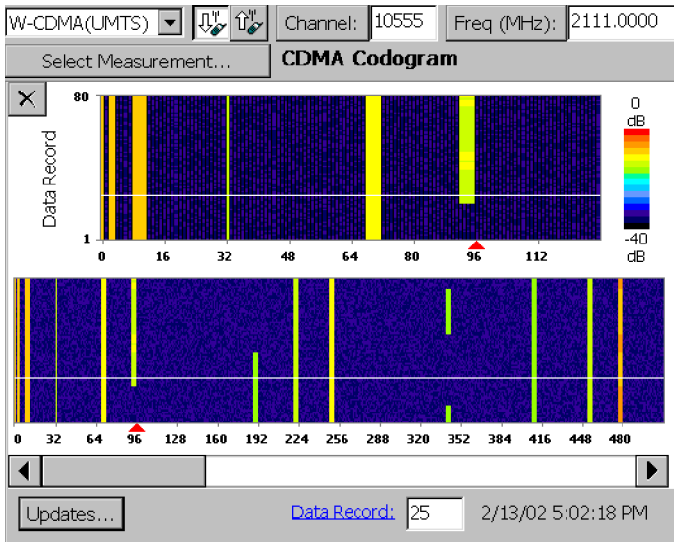

Figure 3-56: W-CDMA Codogram display
5. Tap **Codogram**. See Figure 3-56.